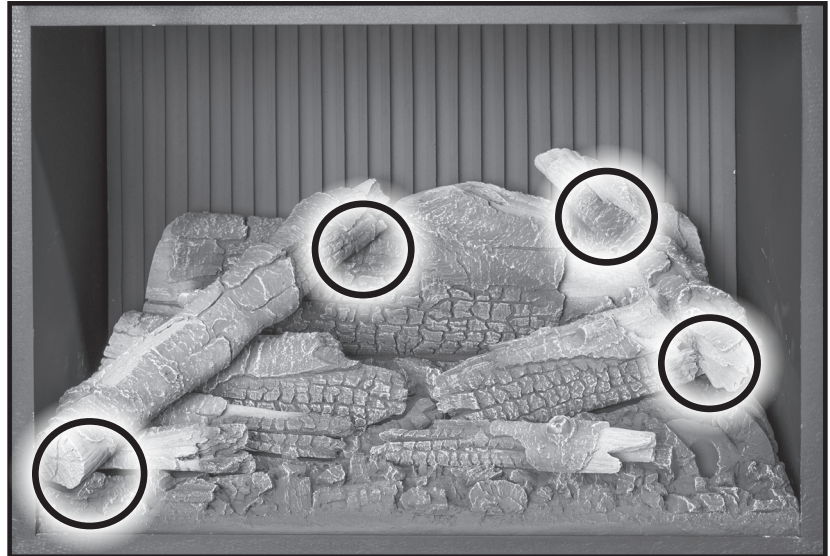

Figure 51. Top Logs.
6. Next, Install the left and right top logs, as shown in Figure 51. Note the locating notches on the bottom side of both logs (areas highlighted).